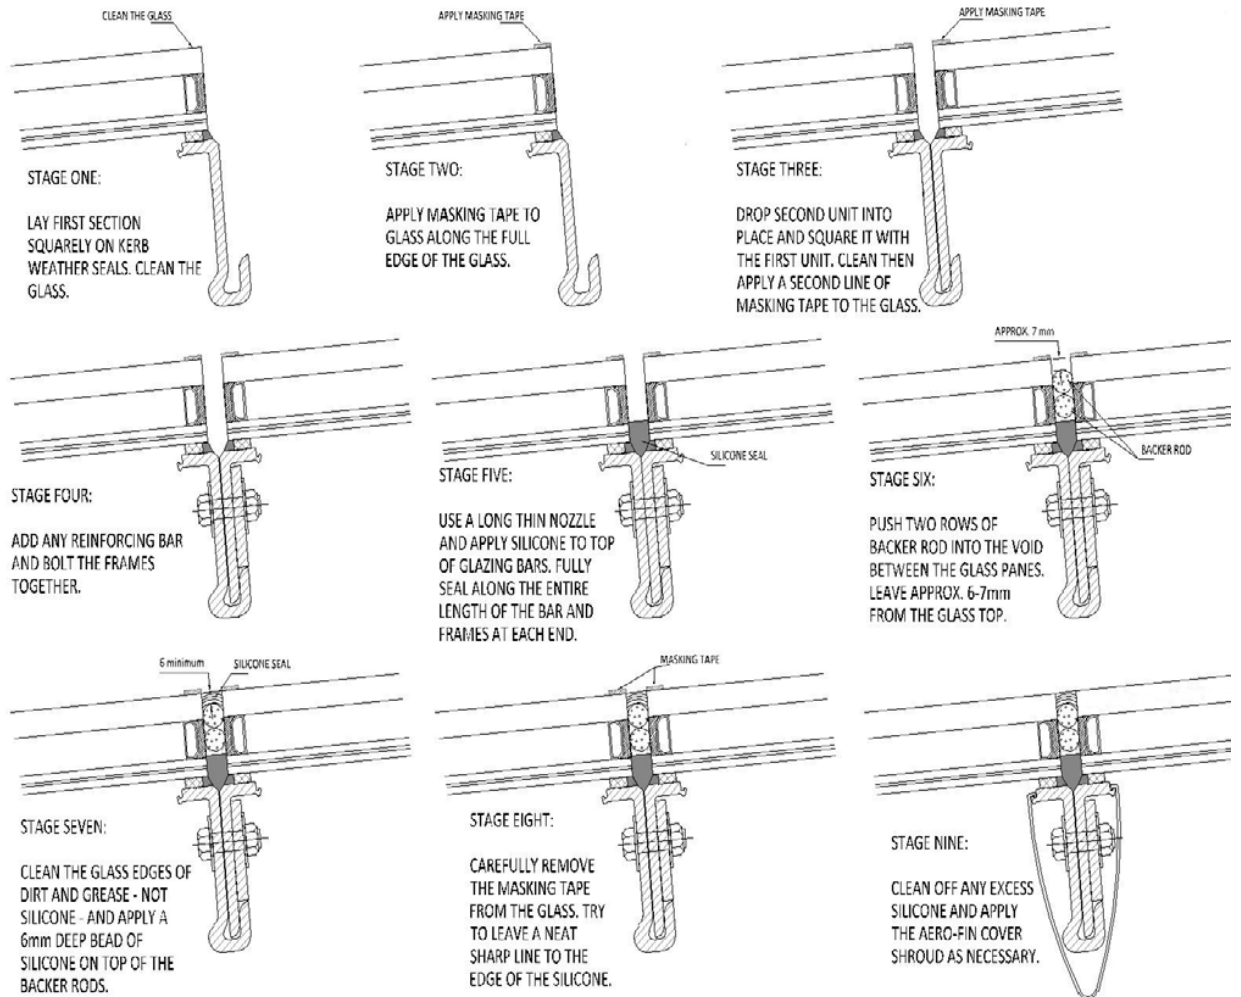

Fig 5- Glazing Bar Installation
- ▶ 11 Clean the glass. Use masking tape to protect the glass either side of the joint between the glass panes, making sure the tape is fully on the glass edge and not overlapping. See figure 5.